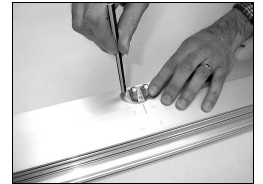

Fig. 4
- D. Place the front rod in line with the centre line of the mobile part of the window frame and trace out the three fixing openings (Fig. 4).
- D. Position the front bracket in line with the centre line on the fixed part of the frame and trace in the three openings for fixing (Fig. 4).